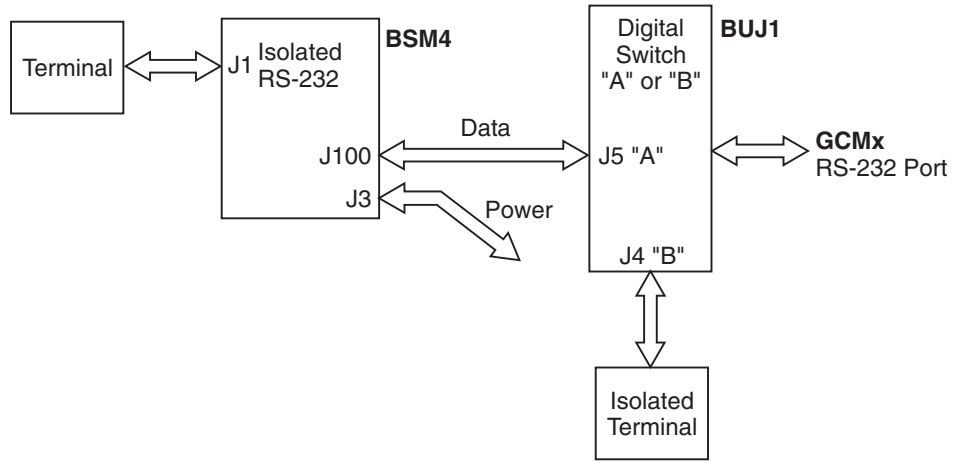

Figure A-3: BSM4 RS-232 Isolation Board Connections Block Diagram
The BSM4 Isolation Board isolates the RS-232 communication port of the BUJ from battery voltage. Figure A-3 shows a block diagram of connections from the BSM4 kit to the BUJ board.
The Galaxy Gateway has an IEEE 802.3 compliant 10Base-T network interface. Since the cable length required to connect the Galaxy Gateway to the network is variable, this cable must be supplied by the user. Connect the network interface cable from the IEEE 802.3 compatible network to J1 (RJ-45) connector on the Galaxy Gateway as shown in Figure A-3.
1. Connect one end of the network interface cable to J1 (RJ-45 Network Interface Connector), usually located at the bottom right on the Galaxy Gateway. (Other configurations are possible with the hardware shown in Figure A-3.)
3. Press reset (SW1 – uP reset; see Figure A-3) on the Galaxy Gateway card.